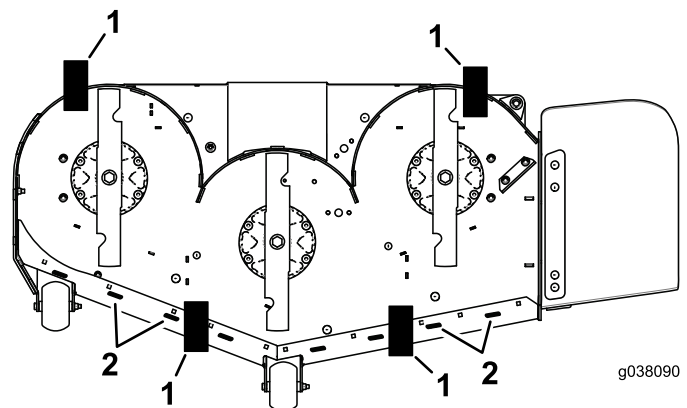

Figure 85
- Place 2 blocks (see Block Height and Rake Table) under the rear edge of the cutting deck skirt; 1 on each side of the cutting deck (Figure 85).